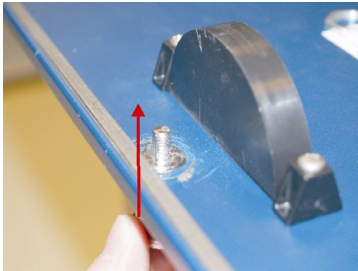

Figure 13 Insert lock cylinder through opening in lid
2. Place the new high-security lock in the lid opening. (Figure 13). *NOTE: When placing cylinder through opening, ensure that label is facing out and the lettering on face of cylinder is upright and parallel to the edge of the lid panel.*